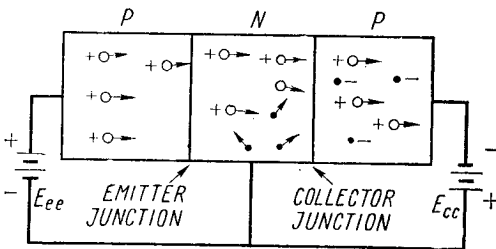

Fig. 12. Basis connection of $p-n-p$ junction transistor
4. Consider now the same $p-n-p$ sandwich, but with the batteries connected as in Fig. 12. Note that the p -region at the left of Fig. 12 is biased positively, in the forward direction, while the p -region at the right is biased negatively in the reverse direction.